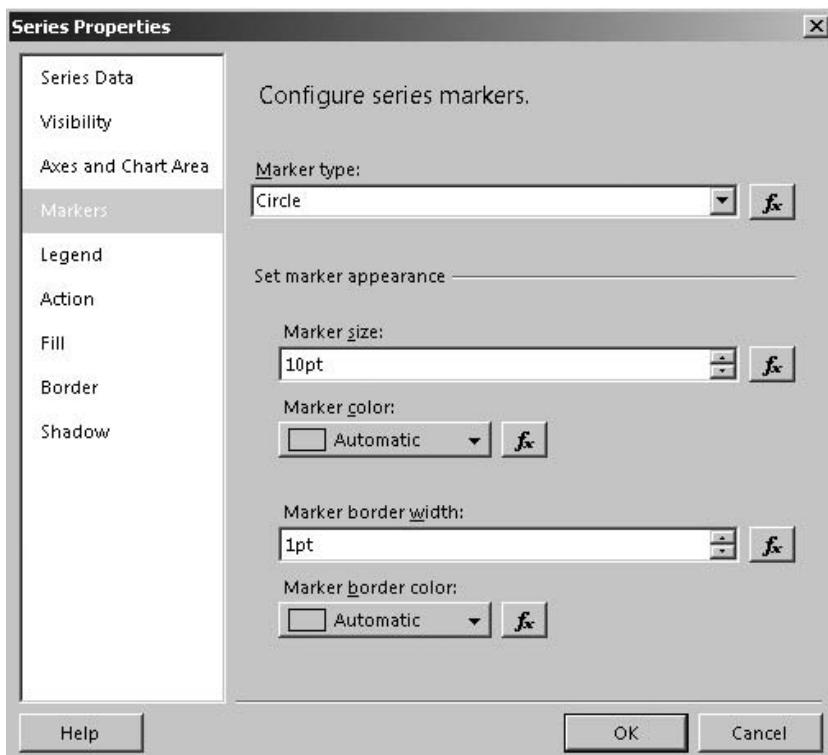

Figure 16-52 The Markers page of the Series Properties dialog box
54. Change Marker size to **10pt**. The Markers page of the Series Properties dialog box appears as shown in Figure 16-52.